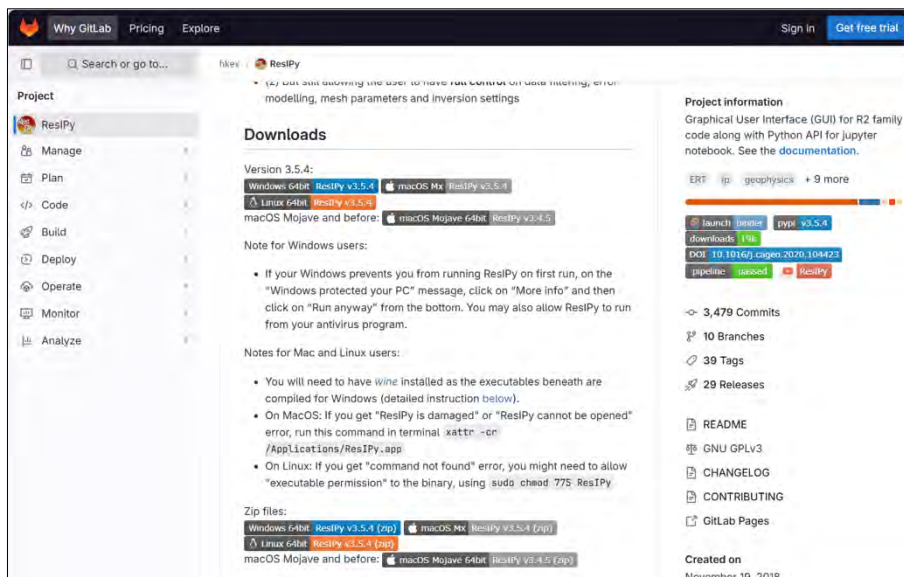

Figure 7. Downloads section of ResIPy's GitLab page
4. If you were able to install all the above dependencies with no errors, you are ready to install ResIPy. Navigate to ResIPy's GitLab page and scroll to the 'Downloads' section (Fig 7).